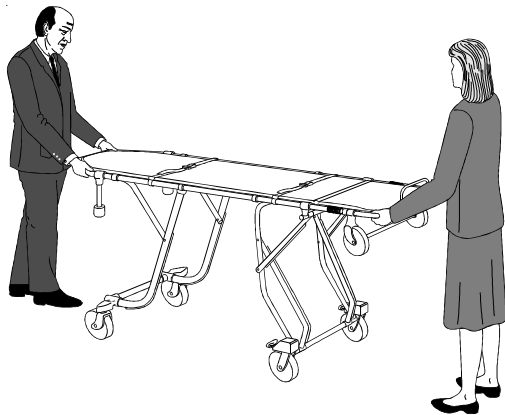

Figure 2 - Changing Cot Height with Two Operators
- Both operators grasp corners of main frame, using an underhand grip (Figure 2).
- Operators position themselves at opposite ends of the cot, facing each other and grasping corners of main frame using an underhand grip (Figure 2).